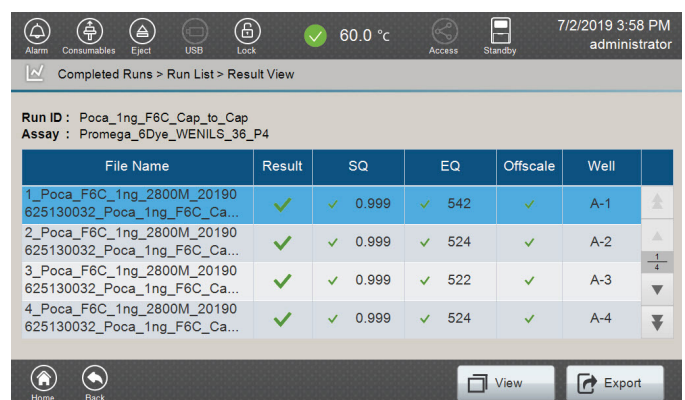

Figure 108. 'Result View' screen.
3. Select **View** in the footer to view a list of samples in that run in the 'Result View' screen (Figure 108). **View** and **Export** do not become active until a sample is selected.
8. Use **Back** to return to the 'Result View' screen (Figure 108), which displays a list of all runs saved on the instrument.
1. From the 'Result View' screen (Figure 108), select the specific sample from the displayed list.
2. Select **Export** in the footer of the 'Result View' screen (Figure 108). The sample file will be exported to the USB drive and stored in a folder named "Run".